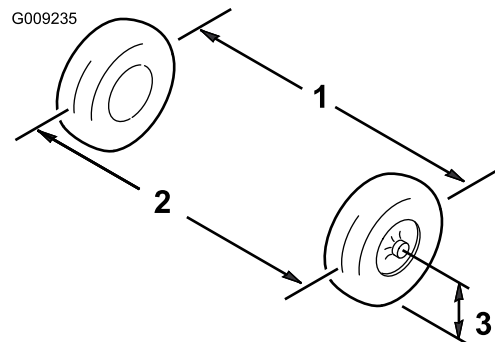

Figure 46
6. Measure the distance between both of the front tires at the axle height at both the front and rear of the front tires (Figure 46).